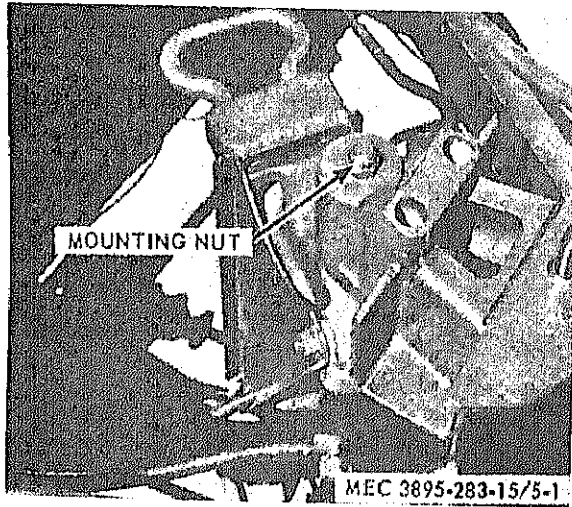

Figure 5-1. Landing Leg Removal.
- a. Removal.* Refer to figure 5-1.
- b. Installation.* Refer to figure 5-1.